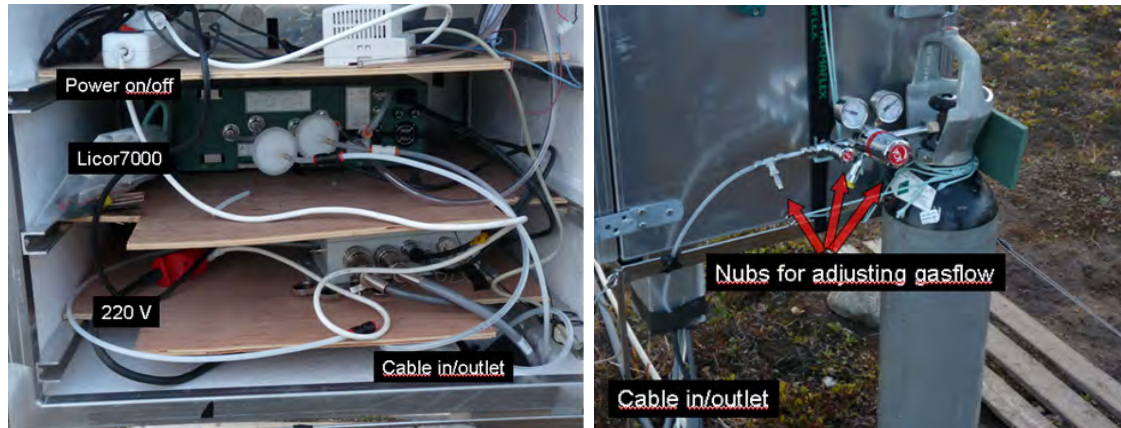

Figure 72: A look into the enclosure from the Back (left) Gas supply for the Licor7000 (right).
3. Switch on the external pump on the (On/Off) switch (Fig. 72).
1. Switch off the external pump on the (On/Off) switch (Fig. 72).
4. Check the flow rate of the incoming nitrogen gas (see Fig. 72). On the backside of the Licor7000 an outlet tube from cell A leads out to the open air. There should always be a continuous flow from the tube of about 1-2 bobbles per second. Bring a small bottle with water (can be left in the enclosure, as long as the air temperature is above freezing) and insert the outlet tube from cell A into the water. Allow bobbles to escape through the water by orientating the outlet horizontally or slightly upwards inside the bottle. Notice the time on your watch, count 20 bobbles and look at your watch again. If 10-20 seconds have passed the air flow is fine, if not adjust the nubs on the nitrogen gas bottle just next to the enclosure. Allow the flow to stabilize for a couple of seconds, before performing the bobble test again. Repeat this exercise until the gas flow is correct. During the main field season this should be done every third day or whenever great changes in temperature occurs. In the outer seasons it might be necessary to do it every day, because the gas flow is very sensitive to great changes in below 0 degrees Celsius temperatures. Also note the amount of gas content in the gas bottle. If the gas flow is optimal, the consumption of gas should
3. Connect a new filter to the tubes. Make sure the tube covers the filter branch completely and that the filter is installed so inlet/outlet is in the right direction according to the direction of the air flow (Fig. 72).